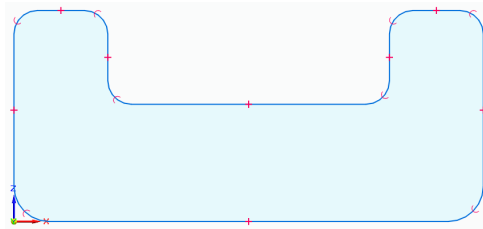

Figure 2-51 Sketch after creating fillets
6. Select the remaining corners of the sketch one by one and then fillet them with a radius of 10. The sketch after creating fillets is shown in Figure 2-51. Next, exit the tool by choosing the **Select** tool from the **Select** group of the **Home** tab.